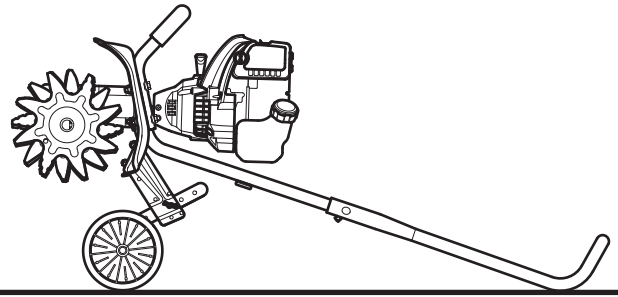

Fig. 15
2. Set the unit on a flat, level surface. Tip the unit back so that the handlebar touches the ground and the engine is in a horizontal position (Fig. 15).
2. **Set the unit on a flat, level surface.** Tip the unit back so that the handlebar touches the ground and the engine is in a horizontal position (Fig. 15).